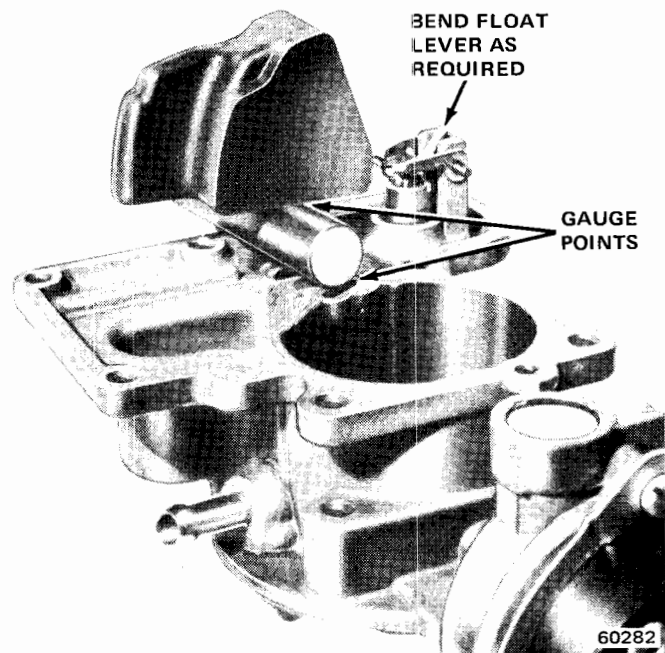

Fig. 4-26 Float Level Adjustment
(1) Remove carburetor air horn and gasket from carburetor.
(2) Invert air horn assembly, and check clearance from top of float to bottom of air horn with float level gauge (fig. 4-26). Hold air horn at eye level when gauging float level. The float arm (lever) should be resting on the needle pin.